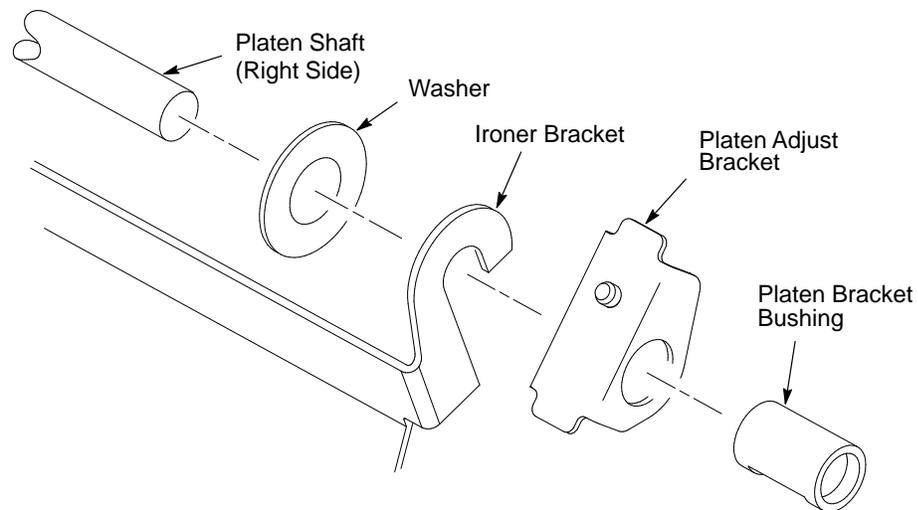

Figure 5-3. Installation of Platen Adjust Bracket Bushing
2. Install the washer on the longer platen shaft. (See Figure 5-3.)
3. Apply bearing lubricant to both platen shafts and to the inside surface of the platen bracket bushings. (See Figure 5-3.)
4. Install the platen adjust bracket bushings as shown in Figure 5-3.